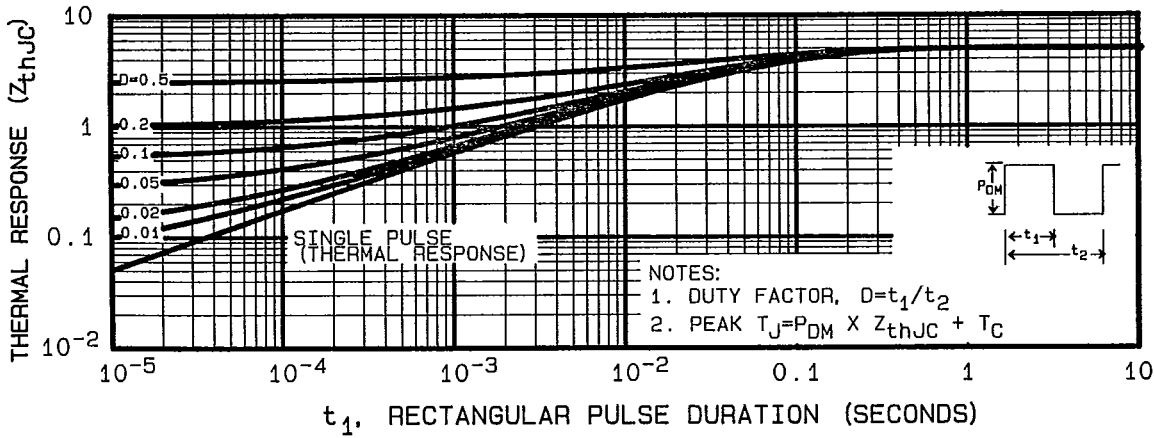

Fig. 5 - Maximum Effective Transient Thermal Impedance, Junction-to-Case Vs. Pulse Duration
- ① Repetitive Rating; Pulse width limited by maximum junction temperature (see figure 5)
- ② @ $V_{DD} = 25\text{V}$, Starting $T_J = 25^\circ\text{C}$, $L = 1.3\text{mH}$, $R_G = 25\Omega$, Peak $I_L = 4.7\text{A}$
- ③ $I_{SD} \leq 4.7\text{A}$, $di/dt \leq 75\text{A}/\mu\text{s}$, $V_{DD} \leq BV_{DSS}$, $T_J \leq 175^\circ\text{C}$, Suggested $R_G = 24\Omega$
- ④ Pulse width $\leq 300\mu\text{s}$; Duty Cycle $\leq 2\%$
- ⑤ $K/W = ^\circ\text{C}/W$, $W/K = W/^\circ\text{C}$
- ⑥ Mounting pad must cover heatsink surface area. See Case Style drawing on front page.